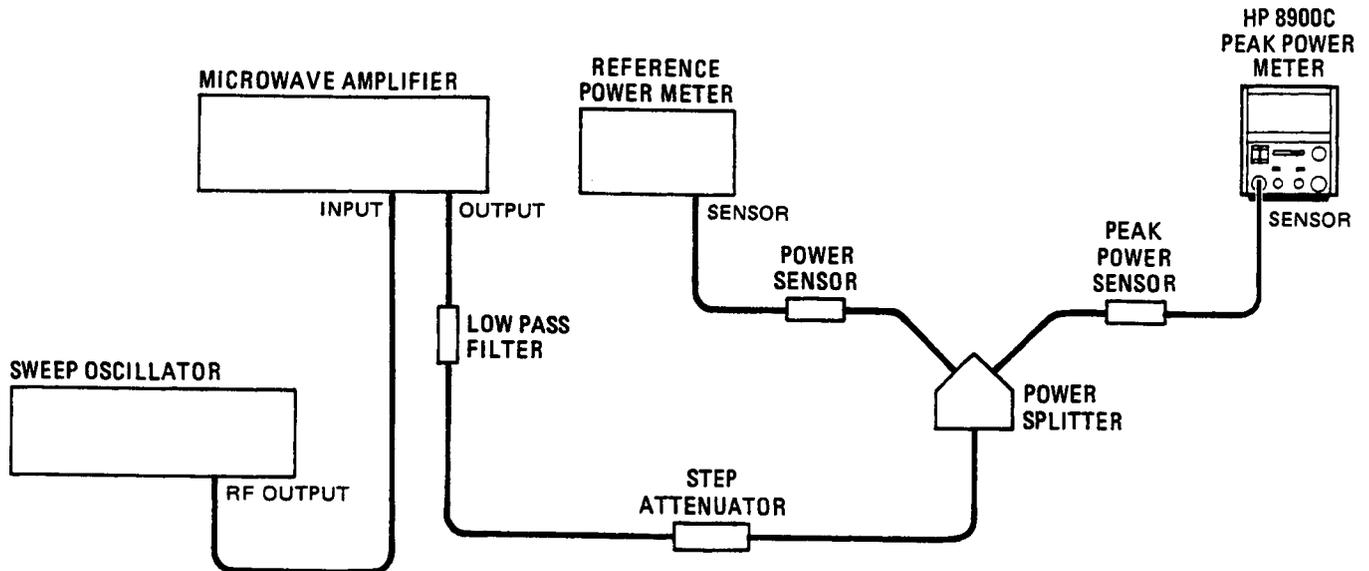

Figure 4-2. CW Power Measurement Accuracy Test Setup
1. Set up the equipment as shown in Figure 4-2.